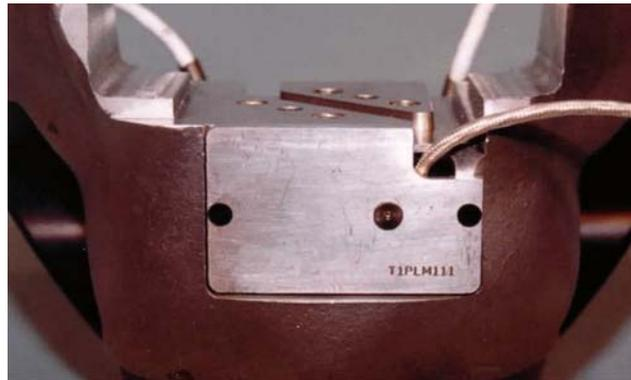

Figure 11.20- Triaxial accelerometer cover
- Install the Pelvis Triaxial Cover (T1PLM111) over the cavity in the pelvis casting using two #4-40 x 3/8" FHSCS {1/16}, as shown in **Figure 11.20**. The cover must be oriented with the wire exit hole at the top-right corner as shown.